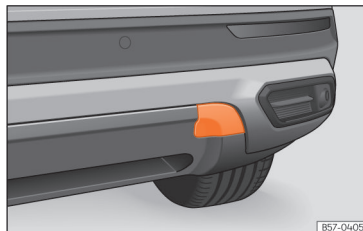

Fig. 194 Rear bumper on right: remove the lid.
The housing of the screw towing eye is on the right side of the rear bumper behind a lid >>> Fig. 194.
- Press the upper side of the lid »» Fig. 194 to unclip it.